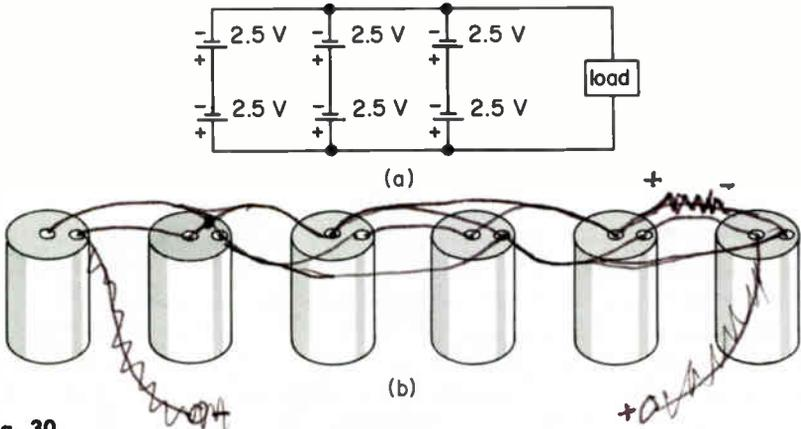

Fig. 30
6. The cells in the battery circuit of Fig. 30(a) are connected in Series/parallel. The battery voltage is 15 V. Each cell in this battery has a life of 25 hr when delivering a 1-A current continuously. This battery will deliver a 1-A current continuously for approximately 75 hr.
7. Draw lines to connect the cells in Fig. 30(b) in accordance with the schematic diagram of Fig. 30(a).